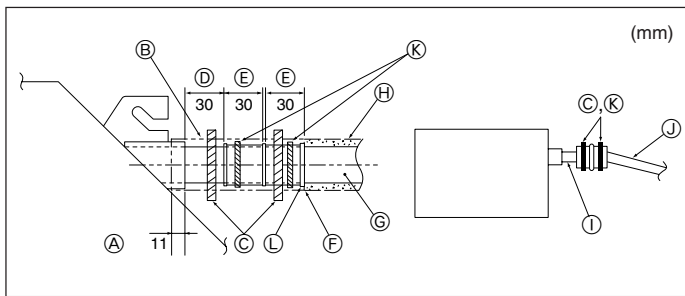

Fig. 6-2
1. Connect the drain socket (supplied with the unit) to the drain port. (Fig. 6-2)